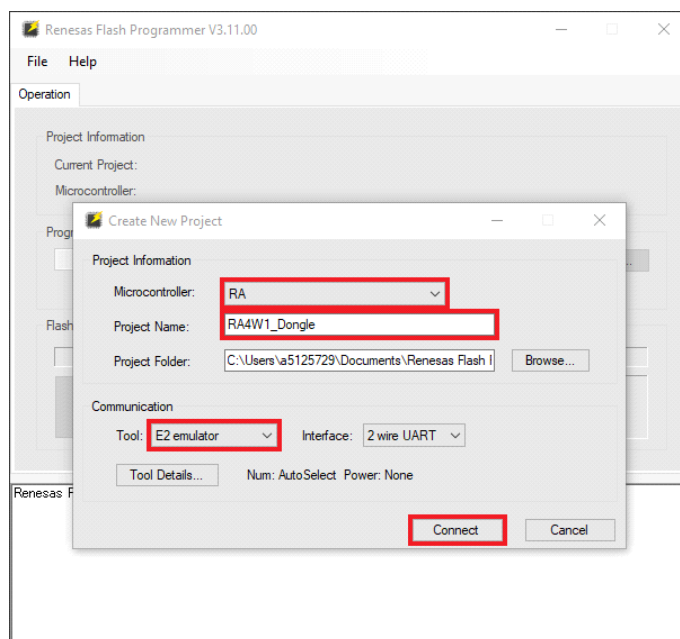

Figure 5. Creating a New Project in Renesas Flash Programmer
4. Run the Renesas Flash Programmer, and on the top menu, select **File > New Project...** from the **Microcontroller** dropdown menu select **RA** (Figure 5). In the **Project Name** field, enter RA4E1_Dongle. From the **Tool** dropdown menu, select **E2 emulator** or **E2 emulator Lite** and click the **Connect** button.